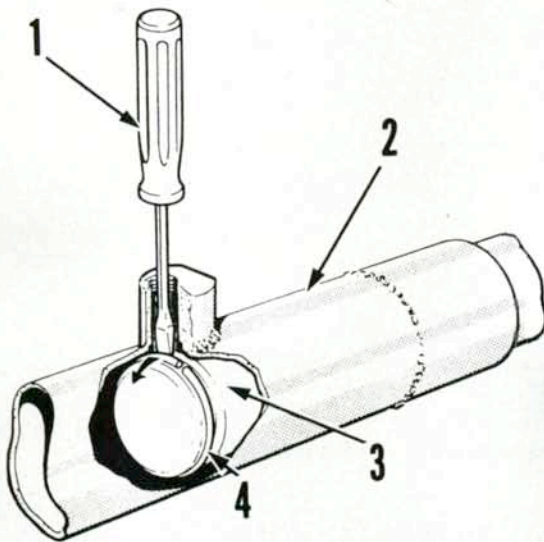

Fig. 340—To disassemble lift assist cylinder (2), insert a screwdriver (1) through cylinder port and pry retaining ring (4) off the piston (3).
To disassemble cylinder, remove socket headed plug from cylinder (2—Fig. 340). Withdraw piston from cylinder until piston rod retaining ring (4) is visible in opening in cylinder barrel, then use a small screwdriver or similar tool to pry retaining ring from groove in end of piston. The piston can now be pulled out of cylinder.